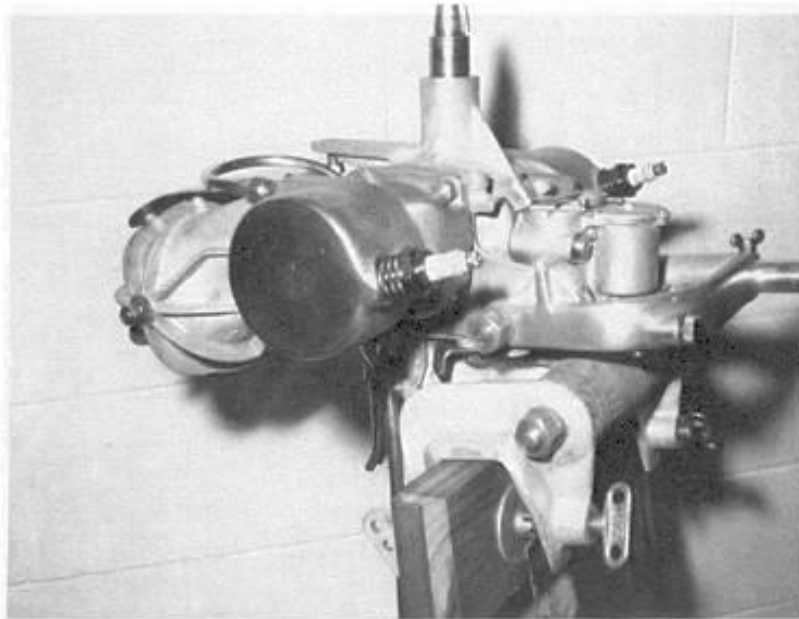

Figure 6
2. The second major part that was different on this very fascinating motor is the muffler. The early model Speedsters did not have water-cooled muffler ends. (See Figure 6.) Note, the water pipes exhaust around the back of the manifolds and down between the muffler and the crankcase to exit the water just below the muffler. This was true on the first 999 engines. On engine Number 61000 the water-cooled muffler end was introduced. This of course was due to the demand for speed, which increased the temperature. Many an owner would come back from a high-speed run and find part of the muffler end had been burned away. The Elto factory offered a free exchange to anyone who would bring his Speedster in with a burned muffler end. The un-water-cooled muffler ends were also used on the early Quads. (I have never heard of one, nor can I find any reference to different parts in the Master Parts Catalog. Any info on the early Quads would be appreciated.)
5. The steering handle went through quite a series of changes. The early handle (Figure 6) had a heavy boss cast into the latch stop. But apparently it was not heavy enough—Jim Webb indicates that many owners of the early Speedsters would attempt to tilt the motor by pushing down on the steering handle. You guessed it: the handle broke. This caused a redesign of the handle to "beef" it up and give it more strength.